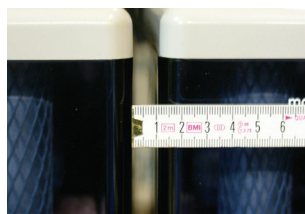

Fig. 5-20: 10 mm distance between the batteries
3. Slide the blocks (or cells) to either side until the distance between the batteries is approx. 10 mm (*Fig. 5-20*). If connectors are used, these determine the distance between the batteries. When sliding the batteries sideways in the racks, do not push them at the middle; instead, push them at the corners as these are stronger. Push batteries using your hands only; never use a tool.